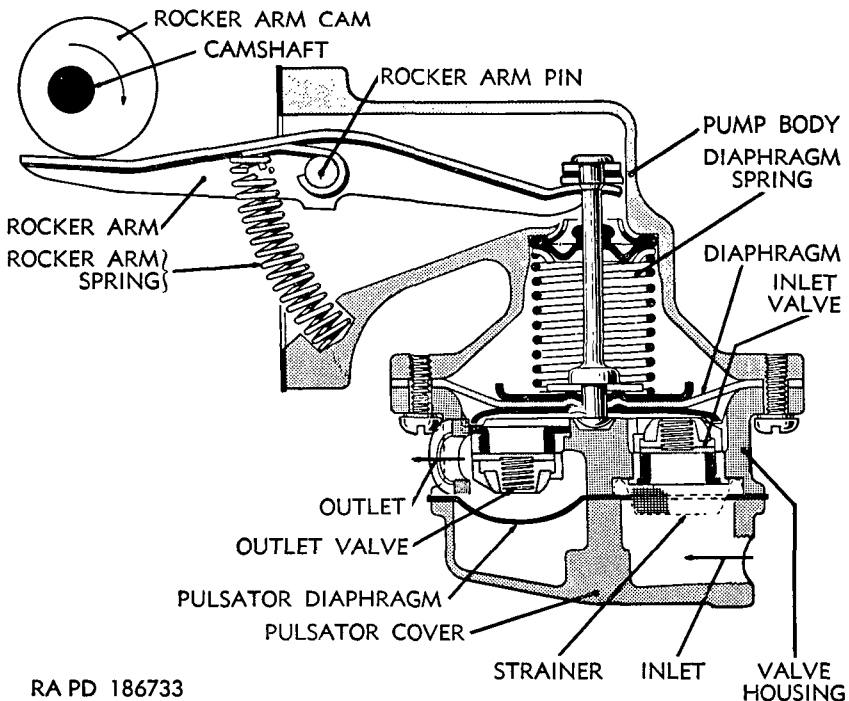

Figure 61. Fuel pump—side cross section.
tion. They consist of a pump body containing the rocker arm and the diaphragm assembly; a valve housing in which the inlet and outlet valves are seated; a pulsator cover; and a filter, either screen type or ceramic type variously located. Figures 61 and 62 show a cross section of a typical Carter mechanical fuel pump.
*a. Rocker Arm Action.* All mechanically driven models operate on the same principle. Refer to figures 61, 62, and 63 for a typical installation. When properly installed, the rocker arm of the fuel pump lies directly underneath and in contact with the camshaft rocker arm cam. Each revolution of the camshaft causes the fuel pump to go through one complete cycle in the following manner. The rocker arm cam depresses the rocker arm; the arm being pivoted on the rocker arm pin lifts the diaphragm in the pump body thereby compressing the diaphragm spring and inducing subatmospheric pressure at the inlet valve. Atmospheric pressure in the fuel tank forces fuel through the inlet, screen, and valve into the inlet valve pump body. When the diaphragm has reached its highest position the rocker arm cam swings away from the rocker arm, permitting the rocker arm spring to push the rocker arm back rapidly to its initial position.